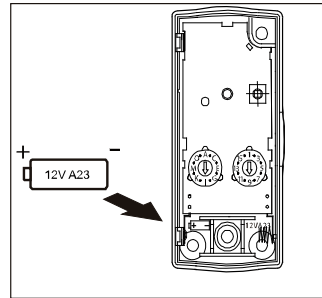

Fig. 6
4. Fit a 12 volt battery (A23) ensuring correct polarity to avoid damaging the door button 23-750. Fig. 6.